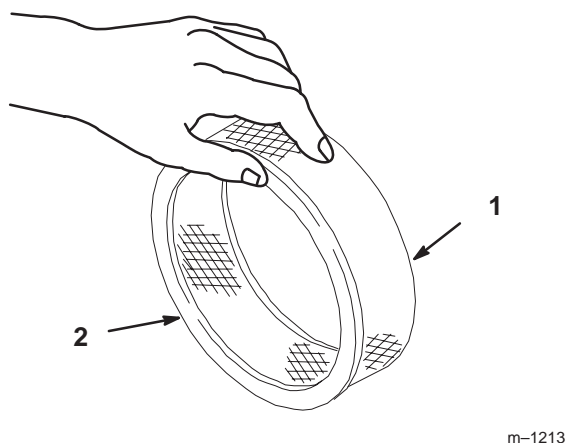

Figure 19
- A. Lightly tap the element on a flat surface to remove dust and dirt (Fig. 19).